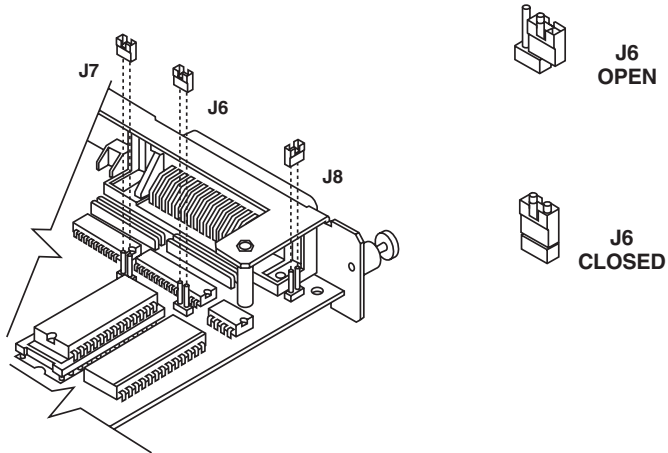

Figure E-1. The Card’s jumpers.
4. Locate the plastic jumper on the Card’s circuit board, near the parallel port labeled “Parallel In From PC/LAN” (see Figure E-1).